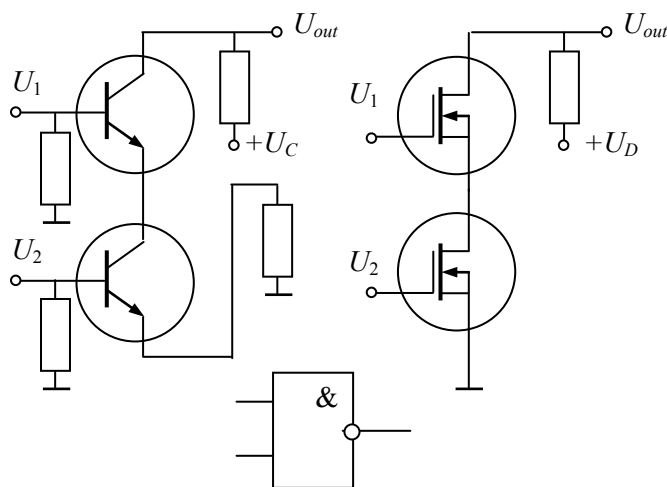

Fig. 2.63
**NAND gate.** This component is a *NOT AND*, or inverted *AND* gate. Its output is low only when all inputs are high. One of the *NAND gates* shown in Fig. 2.63 is the same circuit as in Fig. 2.62 with other output. Another circuit is built on the MOSFET transistors.